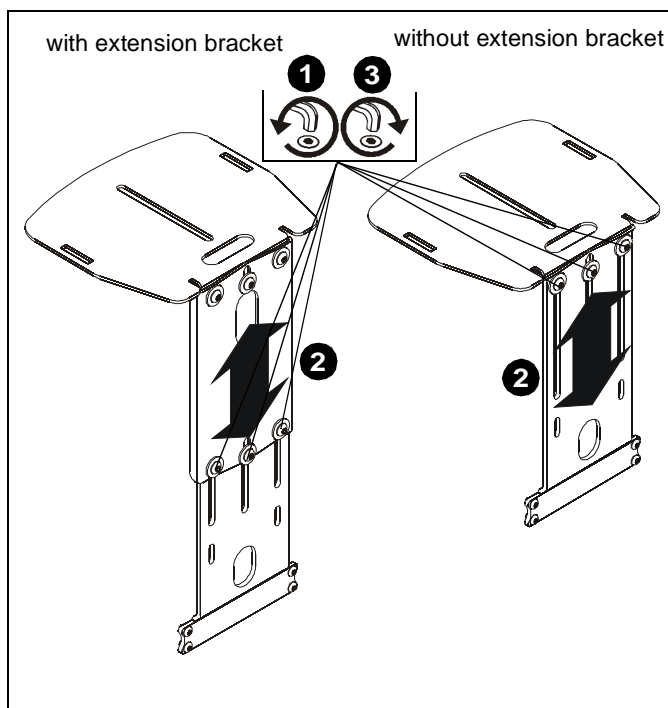

Figure 8
1. Loosen three 1/4-20 x 5/8" button head cap screws (F) holding extension bracket (B) or shelf (C) to attachment bracket (A). (See Figure 8)
2. Adjust height of shelf (C) as desired.
3. Tighten three 1/4-20 x 5/8" button head cap screws (F) holding extension bracket (B) or shelf (C) to attachment bracket (A). (See Figure 8)